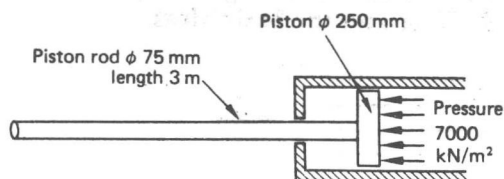

Fig. 1.5
8) Fig. 1.5 shows the piston and piston rod of a hydraulic machine. Find the stress in the piston rod and the amount by which it is compressed if  $E$  is  $200 \text{ GN/m}^2$ .